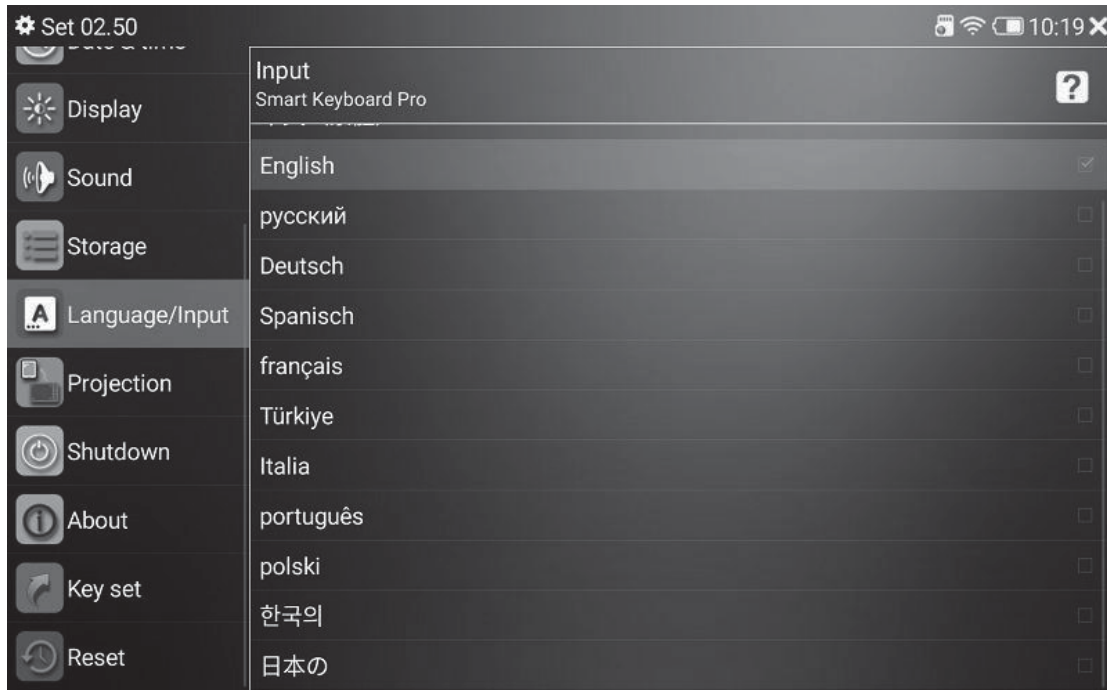

Figure 44
6)Language/Input, this instrument is built-in multiple languages, you can use English, Russian, Japanese, etc. as shown in Figure 44